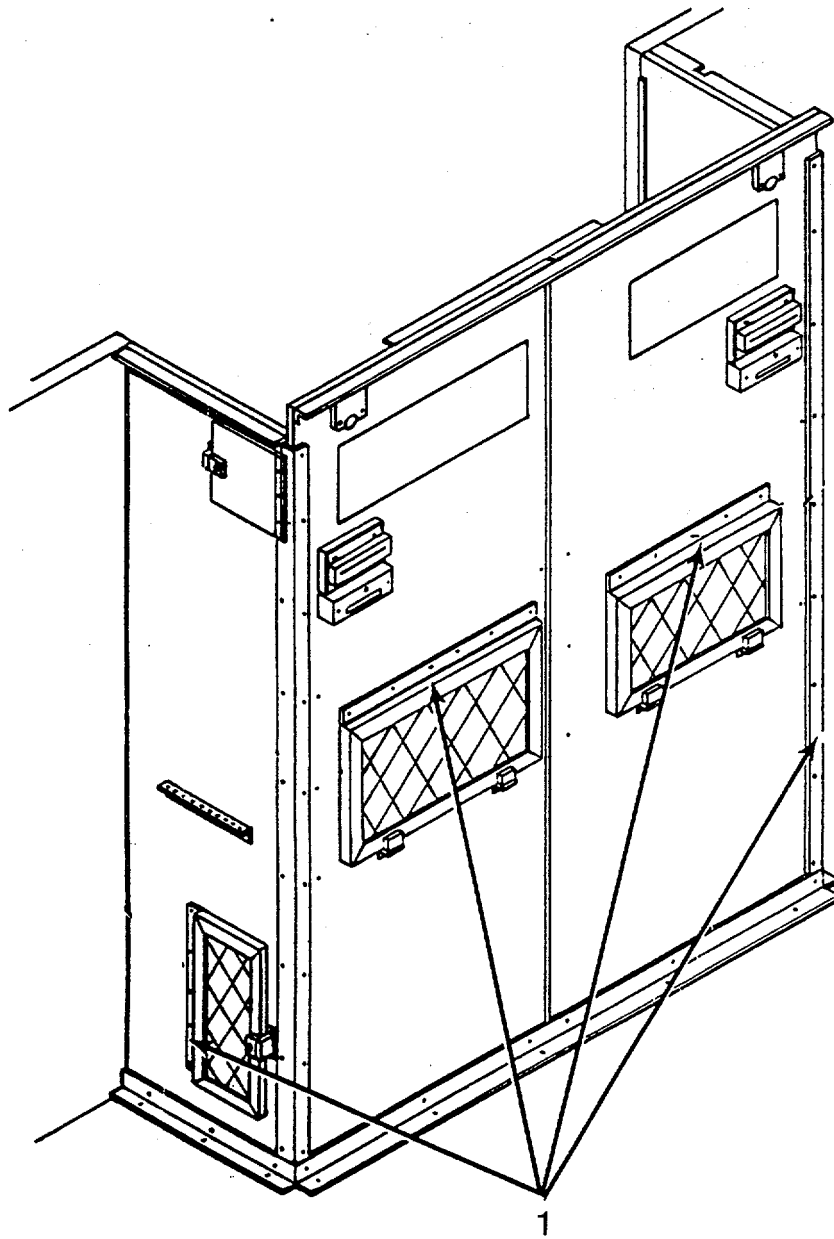

Figure 3-1. Air Conditioner Air Vent Door Hinges.
3-3. AIR CONDITIONERS (24,000 BTUH and 36,000 BTUH). Lubricate hinges (1) on all air vent doors using lubricant (Appendix E, item 4). Refer to Figure 3-1. Wipe off excess lubricant. Refer to TM5-4120-395-14&P for detailed lubrication instructions on the 24,000 BTUH Air Conditioner and to TM 5-4120-396-14&P for detailed lubrication instructions on the 36,000 BTUH Air Conditioner.